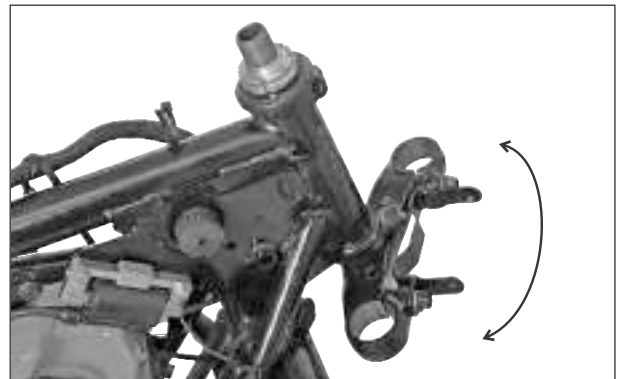

Fig. 6.79
- Then, the order to complete seating of steering ball (Fig. 6.79) and re-tight the arrester to 6 ~ 8 Nm torque again.